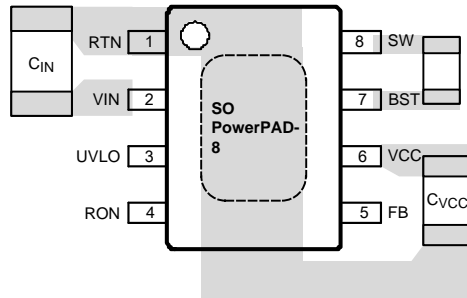

Figure 20. Placement of Bypass Capacitors
1. C_{IN} : The loop consisting of input capacitor (C_{IN}), V_{IN} pin, and RTN pin carries switching currents. Therefore, the input capacitor should be placed close to the IC, directly across V_{IN} and RTN pins and the connections to these two pins should be direct to minimize the loop area. In general it is not possible to accommodate all of input capacitance near the IC. A good practice is to use a $0.1\mu\text{F}$ or $0.47\mu\text{F}$ capacitor directly across the V_{IN} and RTN pins close to the IC, and the remaining bulk capacitor as close as possible (Refer to Figure 20 Placement of Bypass Capacitors).
2. C_{VCC} and C_{BST} : The V_{CC} and bootstrap (BST) bypass capacitors supply switching currents to the high and low side gate drivers. These two capacitors should also be placed as close to the IC as possible, and the connecting trace length and loop area should be minimized (See Figure 20 Placement of Bypass Capacitors).